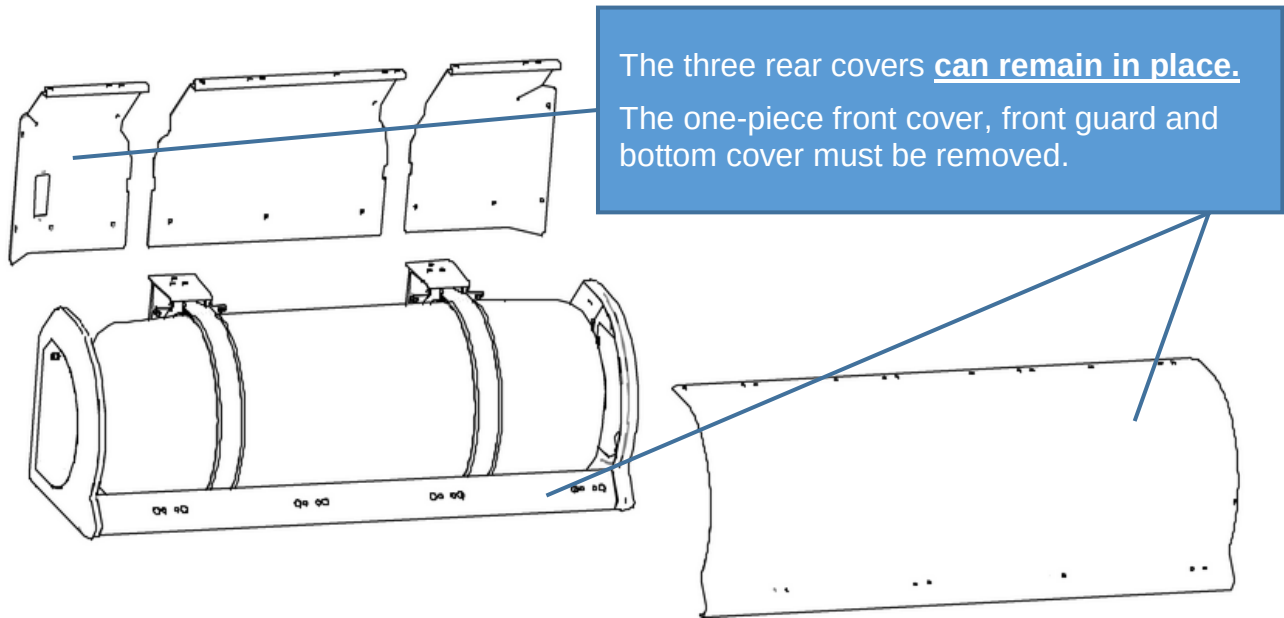

**Figure 2. Remove the one piece front cover.**
1. Refer to Figures 2 through 6. The side mounted system can remain on the vehicle chassis.